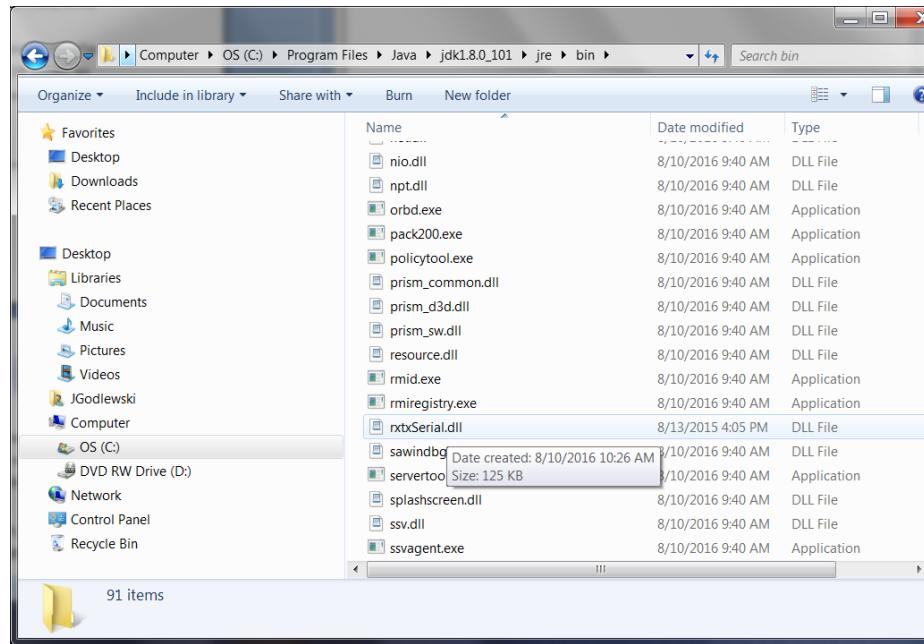

Figure 27: Local JAVA JDK folder for rxtxSerial.dll file.
- 3) Copy the “**rxtxSerial.dll**” file to the PCs local JAVA JDK folder. For example, the file should be copied to “**C:/ProgramFiles/Java/jdk1.8.0_101/jre/bin**” for Windows JAVA JDK version 1.8.0.101. (Figure 27)